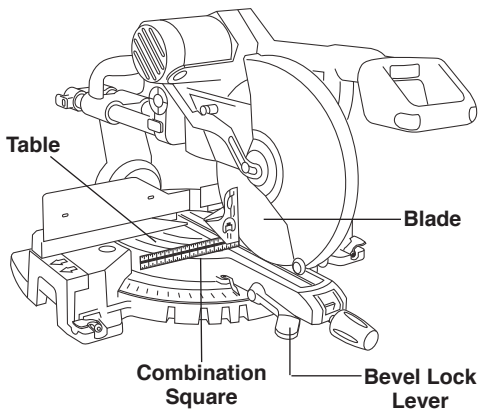

Figure 5. Blade Square to Table
Lower the blade and engage the lock pin. Use a combination square to check blade squareness to the table. Place the square on the table and press it against the blade. If the blade does not contact the full length of the square, (figure 5), follow the alignment procedure.
5. Place combination square on table and against fence. (See figure 5)
Use a head of combination square to check blade at the 45° stop. Place the combination square head on the table and press its 45° surface against the blade. If the blade does not contact the full length of the square, (figure 5), follow the alignment procedure.